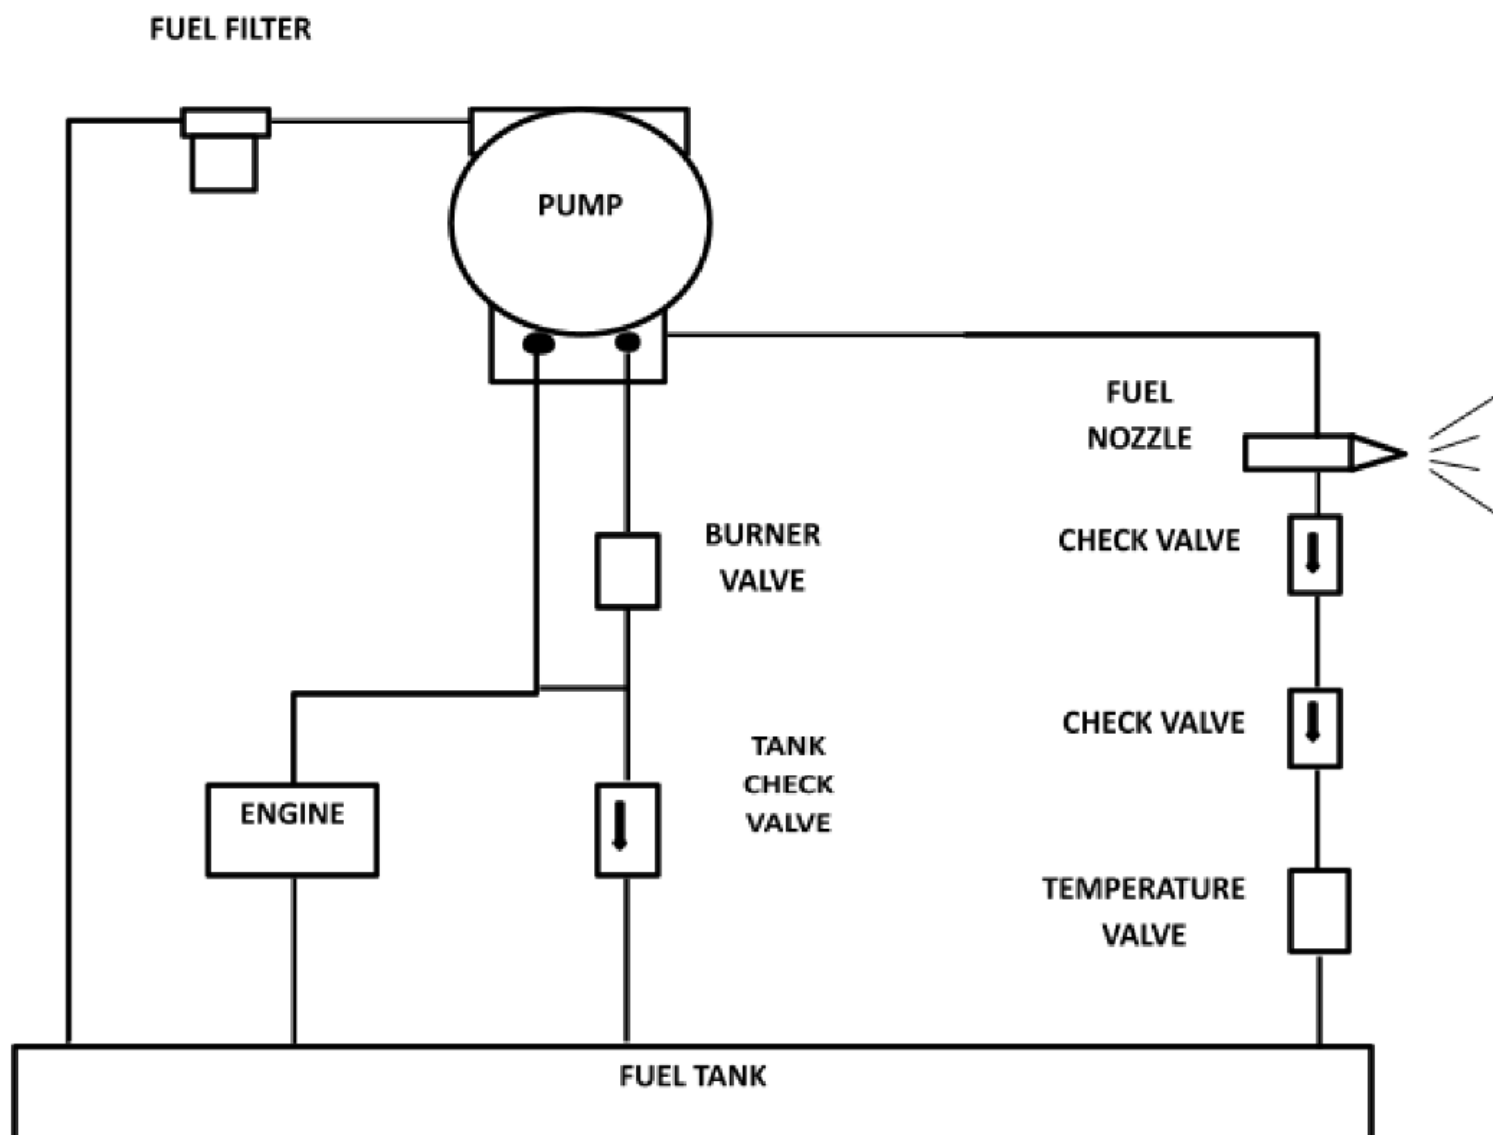
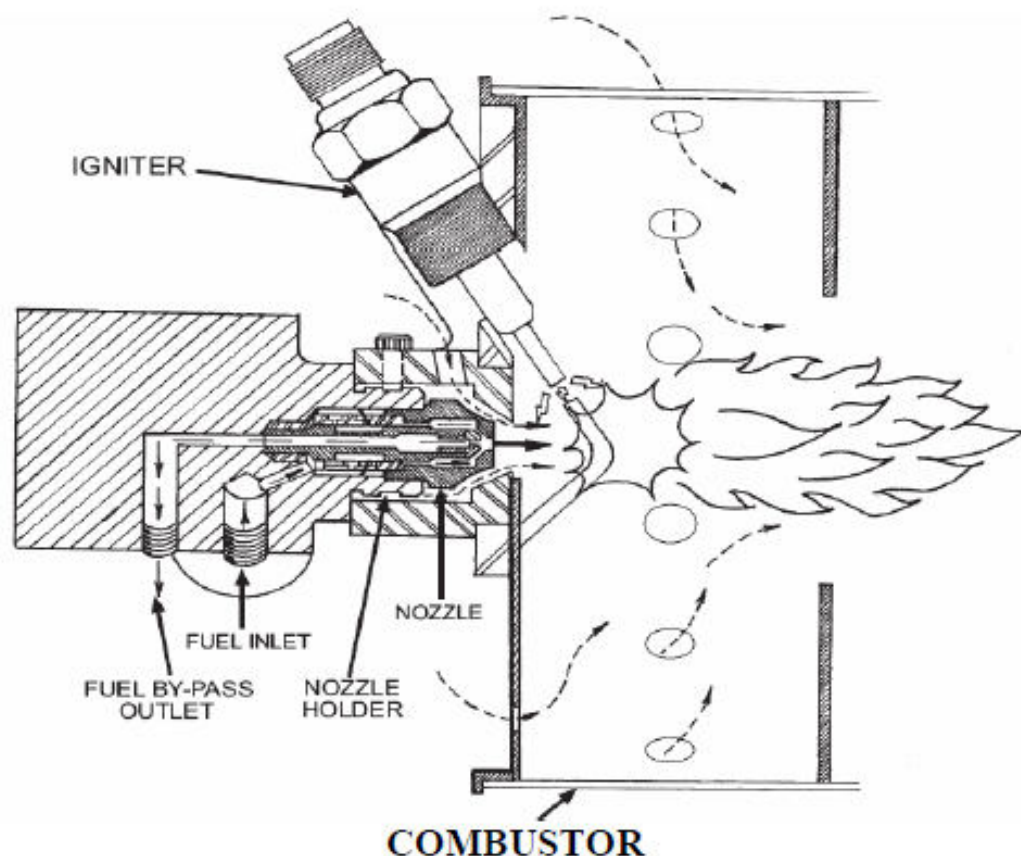

FIGURE 2-4 FUEL SYSTEM SCHEMATIC
Figure 2-5 Sectional View of Nozzle & Combustor
2.9 Fuel flowing from the nozzle is ignited in the combustion chamber (see figure 2-4). The burning fuel strikes a plate or target in the combustor and is diffused into the heat exchanger. Air from the fan enters holes in the side of the combustor in a manner that will ensure proper fuel-air mixture. From the combustor, the burning fuel flows through the heat exchanger in a spiral path between the surfaces of the ventilating air tubes and is expelled through the parallel tubes and the space between the surfaces of the ventilating air tubes and is expelled through the exhaust opening at the top of the casing. (See figure 2-5) The ventilating or heating air is forced through the parallel tubes and the space between the heat exchanger shell and the casing. Heat is exchanged between the hot exhaust gases and the ventilation air. At the discharge end of the heat exchanger is the temperature sensing elements. The air control assembly consists of a baffle and a series of radial tubes. Air traveling between the walls of the heat exchanger and the casing is directed radially inward behind the baffle where it is mixed with warmer air leaving the parallel tubes of the heat exchanger. This mixing ensures a more uniform temperature throughout the discharge airstream. A duct adapter assembly is installed on the discharge end of the heater to connect the flexible duct (see figure 2-2).